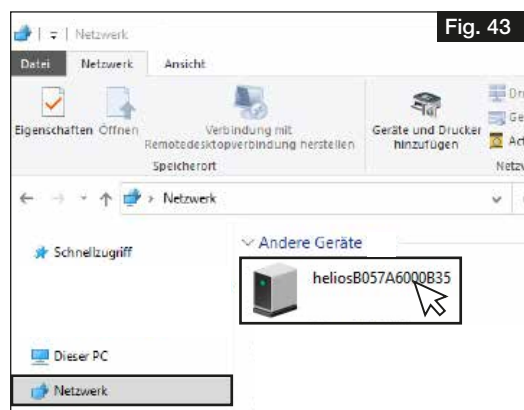

Fig. 43
2. Open desktop and click on Network, see Fig. 43.
- ① **Network discovery must be activated!**
3. Double-click on the corresponding unit, see Fig. 43.